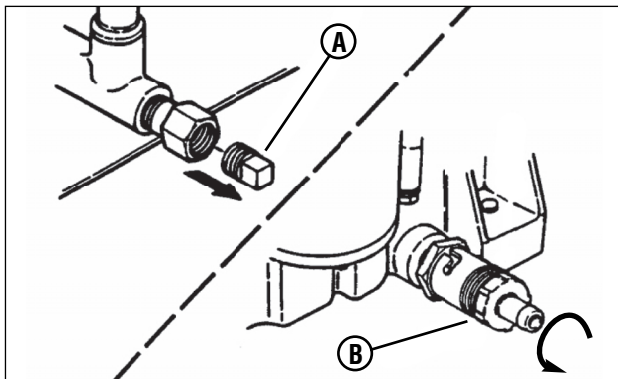

Figure 19: Oil drain plugs
3. Place a 2 quart minimum capacity container under the end of the oil drain (Figure 19).
4. Remove or open the oil drain plug (A or B, Figure 19), depending upon the type of oil drain plug the engine is equipped with.